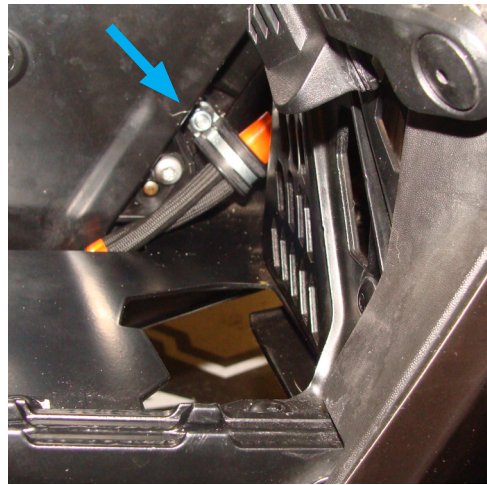

Figure 33: lower chain-case mounting bolt
4. Use a 10 mm socket to remove the nut on the lower chain-case mounting bolt (Figure 33).